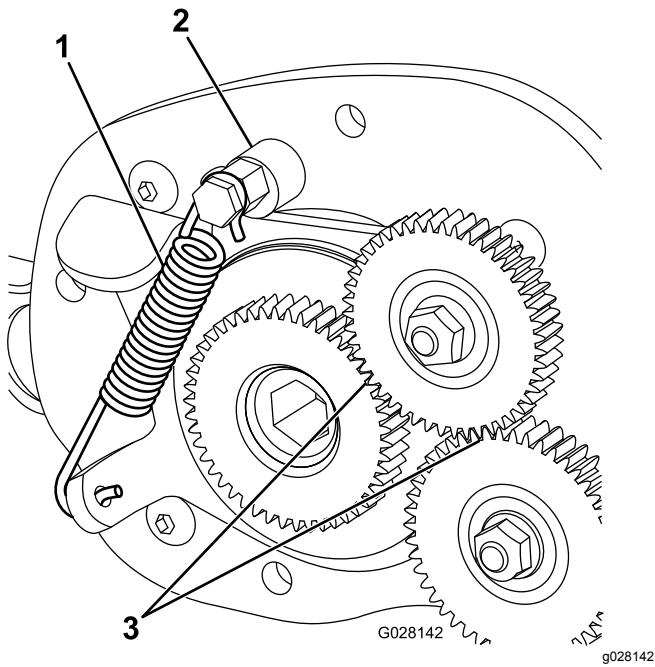

Figure 12
- 15. Install the idler tension spring (Figure 12).
16. With the idler gear engaged, use a spark plug gapping tool to check that there is a 0.38 to 0.45 mm (0.015 to 0.018 inch) gap between the driver and fixed idler gear (Figure 12).